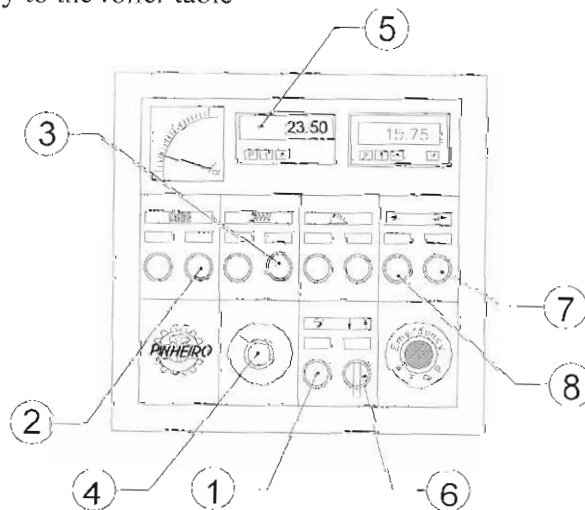
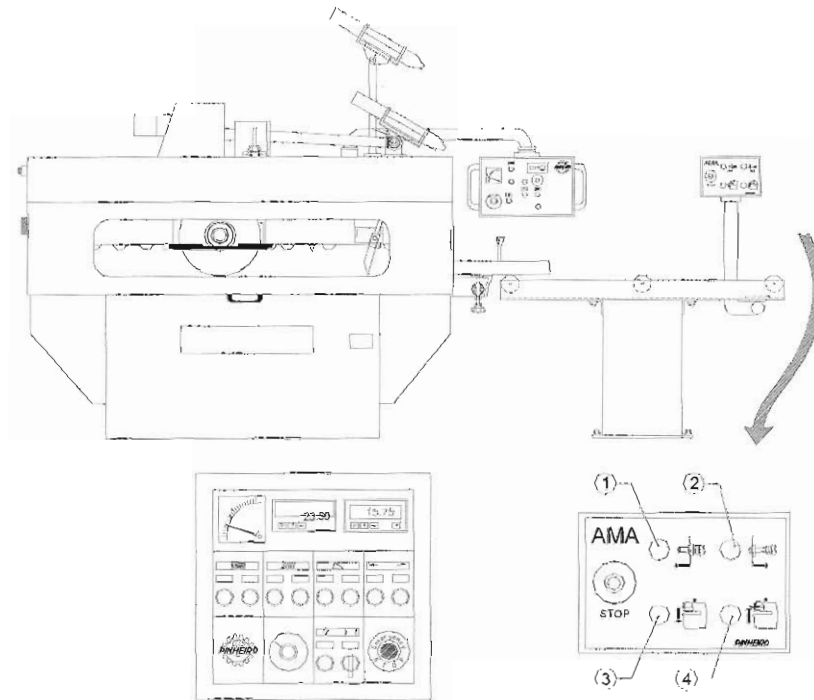

Figure No. 6
Figure no. 13
(See Fig. No. 6)
(See Fig. no. 6 and no. 9)
The height of the feed housing for supporting the pressure rolls is as a function of the thickness of the pieces; the adjustment is made at pos.6 of fig. no. 6 (or at pos.3 and 4 of fig. no. 13).
9 – ADJUSTING THE FEED SPEED *(See Fig. no. 6)*
The feed speed is infinitely variable, from 7 to 40 m/min; the adjustment is performed on the potentiometer Pos.4 and it can be seen on the indicator Pos.5 (see fig. no. 6).